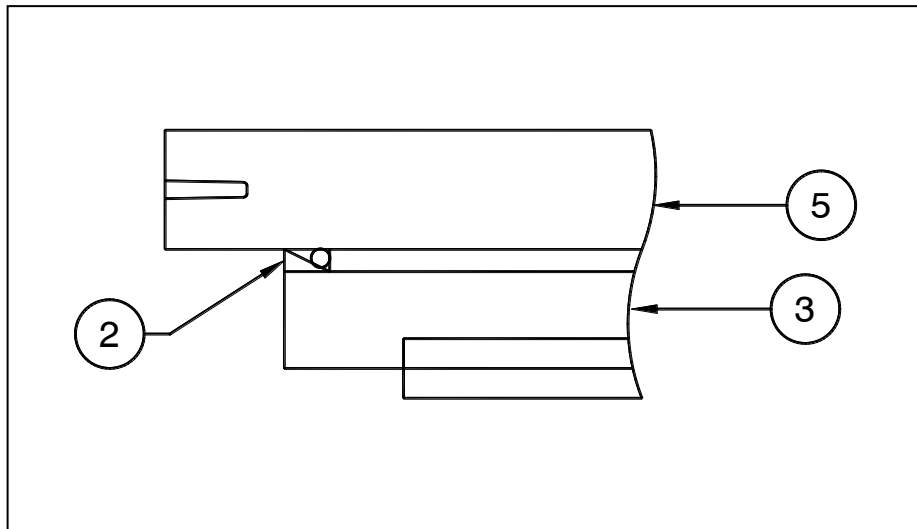

Figure 4.7g
- l. Cover the keyway with tape to prevent the seal being cut, then; install the oil seal (2) as shown in Figure 4.7g.